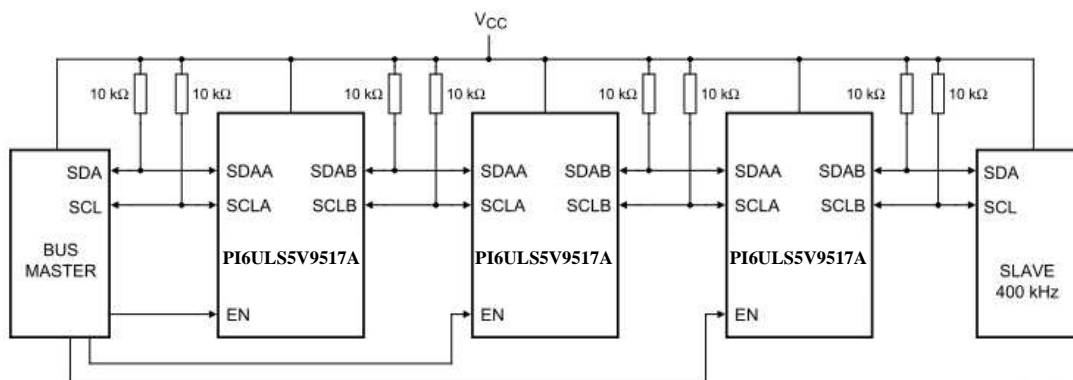
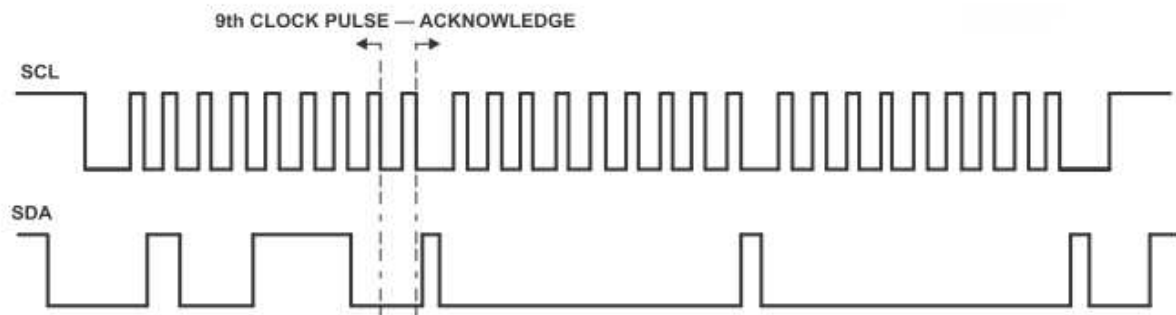

Figure 8: Typical Series Application
Figure 9: Bus A (0.8V to 5.5V Bus) Waveform
When port A of the PI6ULS5V9517A is pulled LOW by a driver on the I2C-bus, a comparator detects the falling edge when it goes below 0.3 VCC(A) and causes the internal driver on port B to turn on, causing port B to pull down to about 0.5 V. When port B of the PI6ULS5V9517A falls, first a CMOS hysteresis type input detects the falling edge and causes the internal driver on port A to turn on and pull the port A pin down to ground. In order to illustrate what would be seen in a typical application, refer to Figure 8 and Figure 9. If the bus master in Figure 4 were to write to the slave through the PI6ULS5V9517A, waveforms shown in Figure 8 would be observed on the A bus. This looks like a normal I2C-bus transmission except that the HIGH level may be as low as 0.8 V, and the turn on and turn off of the acknowledge signals are slightly delayed.
Multiple PI6ULS5V9517As can be connected in series (Figure 8) as long as port A is connected to port B. I2C-bus slave devices can be connected to any of the bus segments. The number of devices that can be connected in series is limited by repeater delay/time-of-flight considerations on the maximum bus speed requirements.